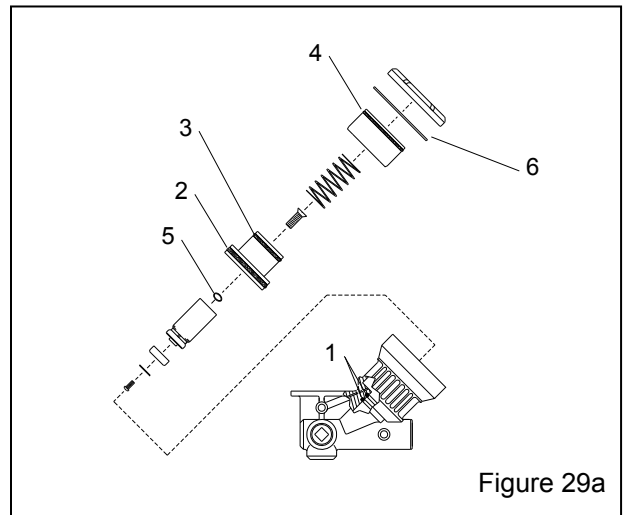

Figure 29a
- * Service kit, Millennium Inlet seals (Fig. 29a) 22856